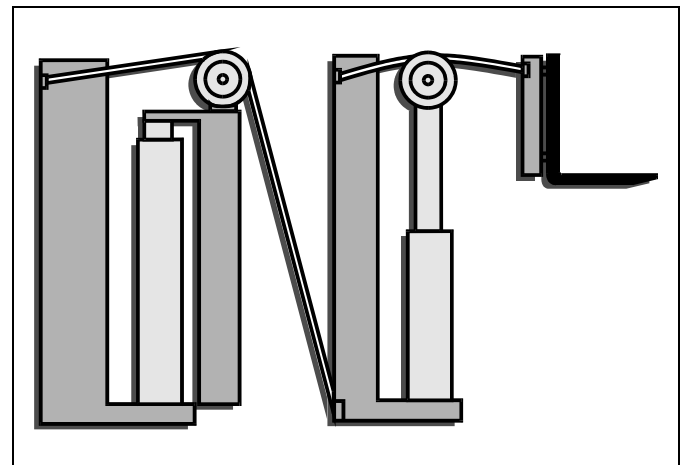

Figure 3-7: Mast in Free Lift Position
On a triplex mast, a primary cylinder is supported by the inner rails and hydraulically controlled. As the primary cylinder rod extends, a sheave and chain assembly lift the fork/carriage upward at twice the distance covered by the cylinder rod. This first stage of carriage lift is called free lift. It is the distance of lift available without increasing the overall height of the mast assembly. See Figure 3-7.
- Rail extension, in which both the middle and inner rail moves, carrying the carriage upward. See Figure 3-7.